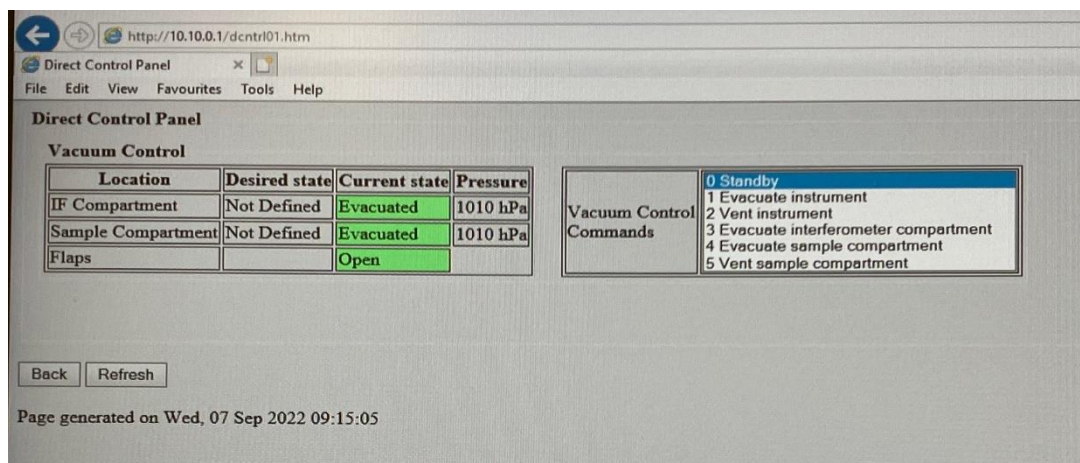

Fig. 3. "Direct Control Panel" of the vacuum pump
3. Turn on the vacuum pump (green button) and start pumping down the system - open the Internet Explorer browser, select the "Direct Control Panel" item on the loaded page, and then "Evacuate instrument". The pressure and status of the device are continuously displayed. The air in the spectrometer has been pumped out correctly if the status "Evacuated" is displayed (Fig. 3)
3. Choose the "Stand by" option in the "Direct Control Panel" on the loaded page in Internet Explorer (Fig. 3)